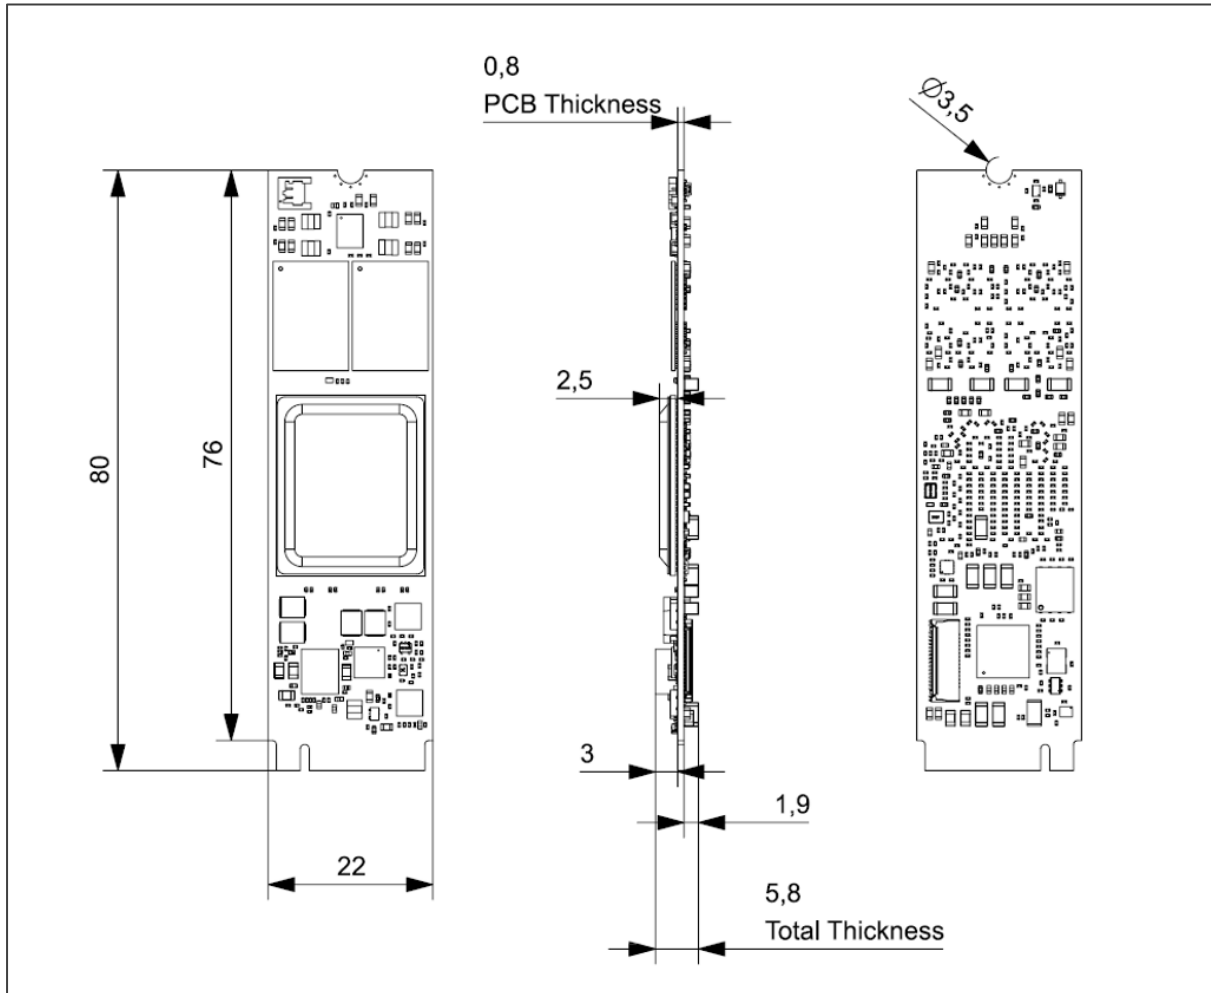

Figure 2: Board dimensions of the Metis M.2 Max card
- Figure 2 shows the board layout and dimensions.